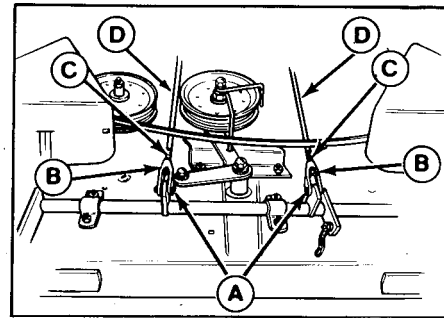

Figure 39. Turnbuckles
6. If adjustment is needed, remove the two pins (A, figure 39) by removing the cotter pins. Loosen the jam nuts (C).